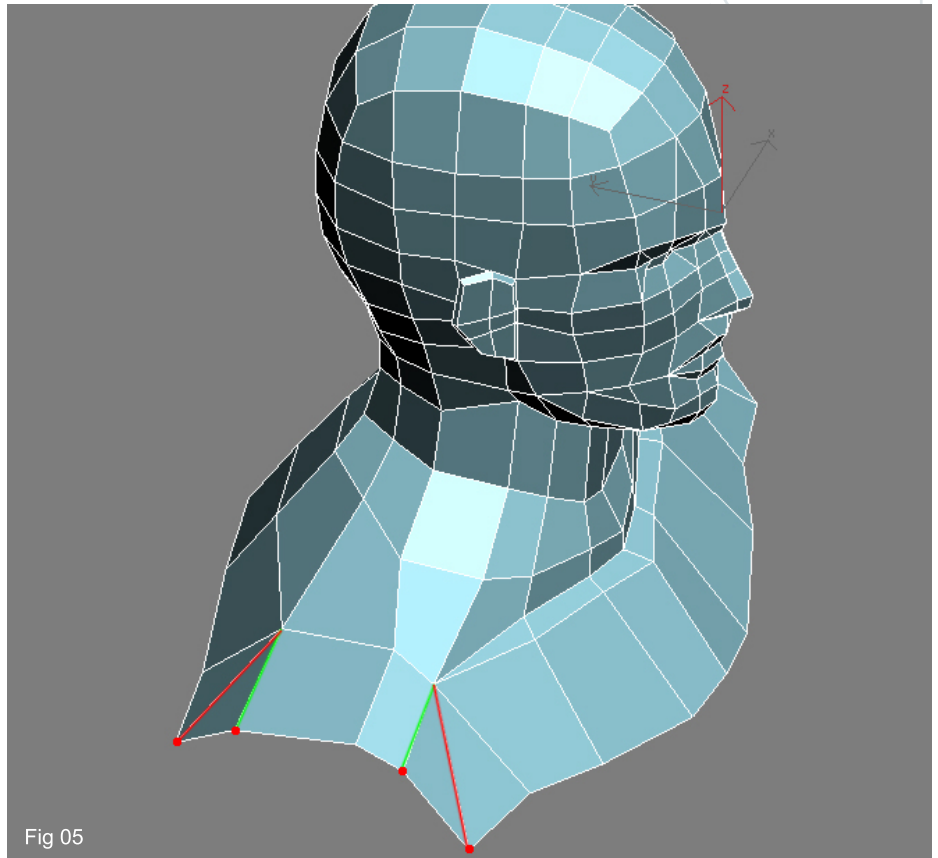

Fig 05
5. We have made most of the shoulder area already by simply copying edges and re-positioning the new verts and now it is time to start to form the top of the arm area. We need to make two new cuts on the front and back poly's that form the outer edge nearest the left of the image. This is so we have enough edges from which to "Extrude" an arm later on. In Fig05 you will notice that these are represented by the first cut in green and the second in red – the new verts are then moved (red dots). We have now created two triangles by the last cut but these could be deleted and replaced by a quad if one so wished.